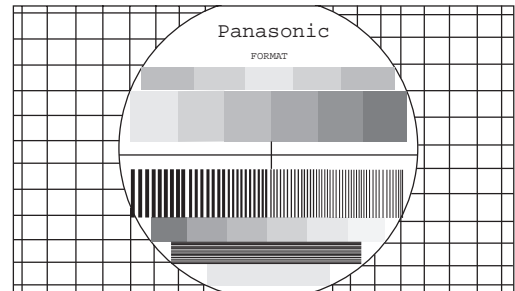

Figure 34. Vertical size adjustment
4. Adjust VDEF "VSIZE" DAC until vertical size is proportional on top and bottom. (See figure 34)